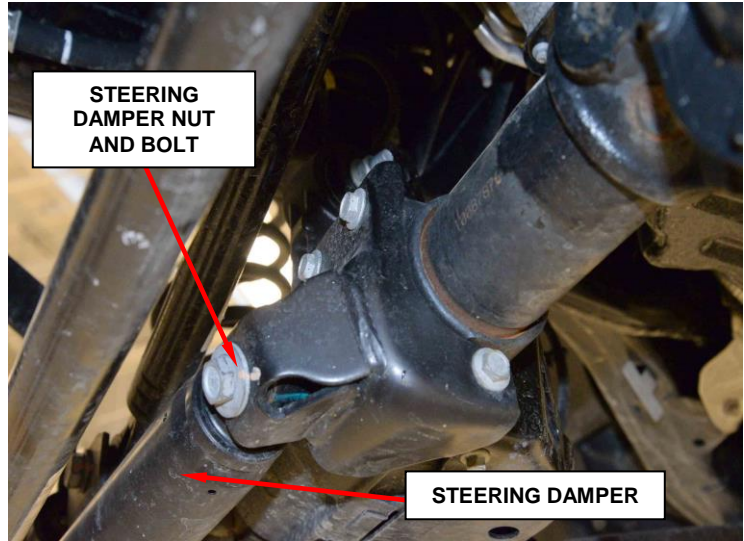

Figure 15 – Steering Damper
22. Remove the steering damper nut and bolt from the axle bracket (Figure 15).
19. Install the steering damper bolt through the axle bracket and start it a few threads into the flag nut (Figure 15).